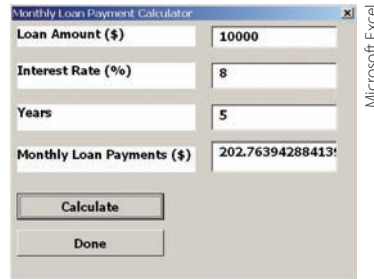

FIGURE 14.69
19. The monthly loan payment is now calculated and displayed as in Figure 14.69. Click on the Done button to exit the code.